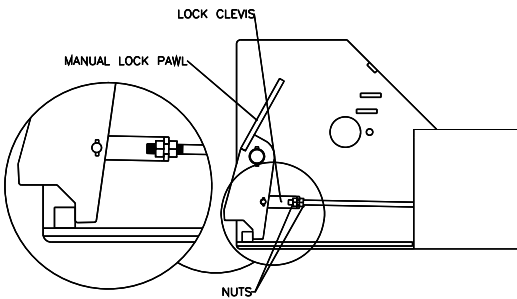

Fig 4 – Lock Clevis
- 4) Check the lock release bar to ensure it is secure and that the lock pawl is in the correct position as shown in **Fig 4**. Adjust if necessary. Verify the lock moves freely and make sure the lock pawl return spring doesn't over-travel and interfere with Lock Ladder.
- 40) Raise lift to working height and lower lift onto locks. Attach the mechanical lock bar to both cross beams using the hairpin cotter pins, make sure the lock bar is positioned onto the saddle/hook inside the runway. **Verify the mechanical lock release moves freely and lock pawl return spring doesn't interfere with Lock Ladder.**(See Fig 4)